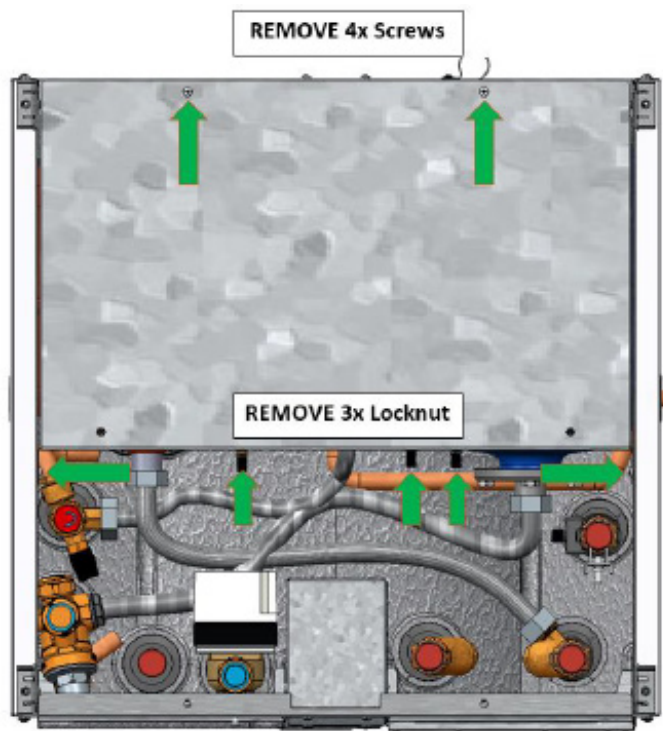

Fig. 92 : Locknut and screw removal
3. Disassemble the bracket holding down the expansion vessels by unscrewing the four screws shown in Fig. 92. Remove the three locknuts attaching the schrader extension hose and the bracket. This will allow the 2 litre DHW coil expansion vessel to be moved out of the way to facilitate removing the T&P valve.